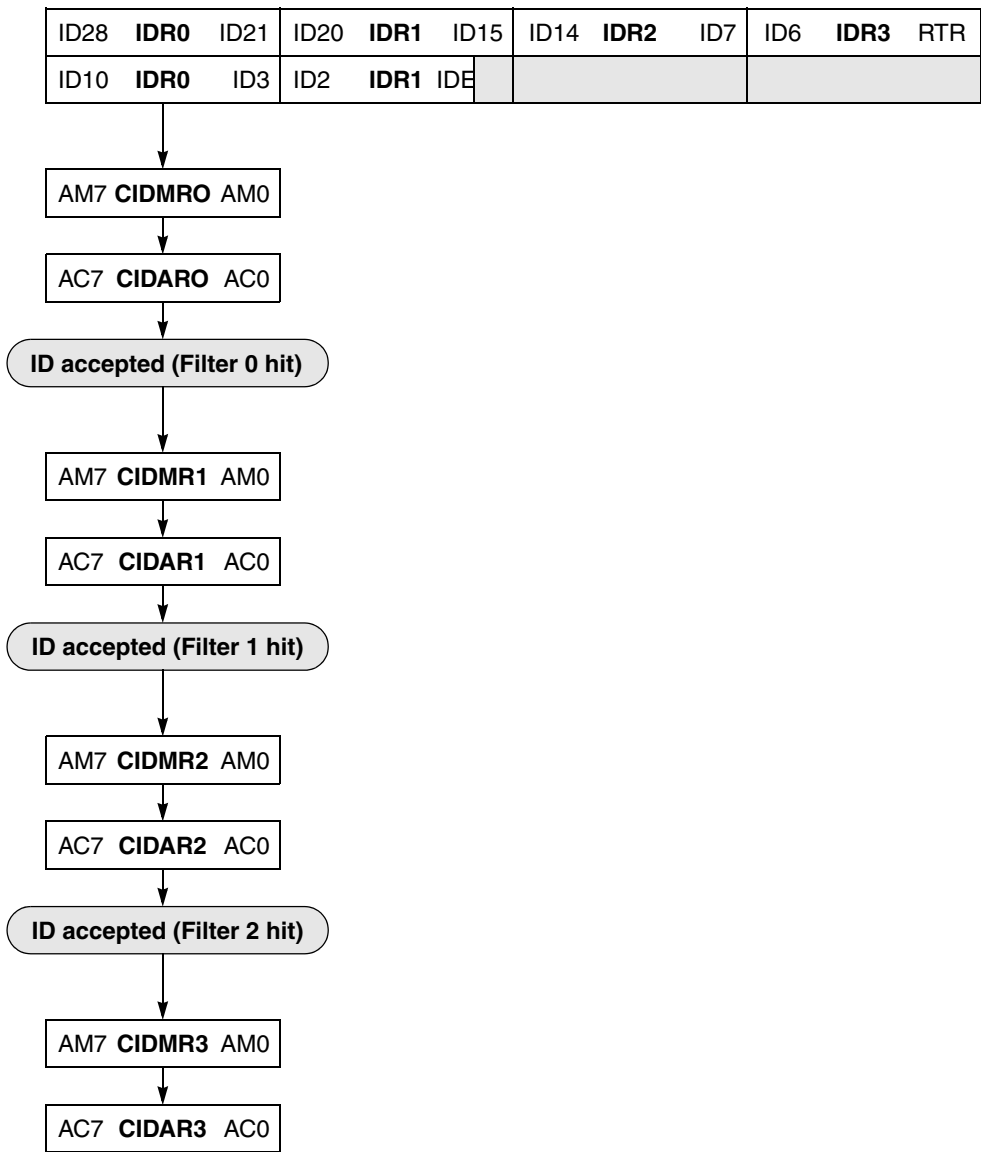

Figure 18-5. 8-bit Maskable Acceptance Filters
- Eight identifier acceptance filters, each to be applied to the first 8 bits of the identifier. This mode implements eight independent filters for the first 8 bits of a CAN 2.0A compliant standard identifier or of a CAN 2.0B compliant extended identifier. Figure 18-5 shows how the first 32-bit filter bank (CIDAR0–3, CIDMR0–3) produces filter 0 to 3 hits. Similarly, the second filter bank (CIDAR4–7, CIDMR4–7) produces filter 4 to 7 hits.